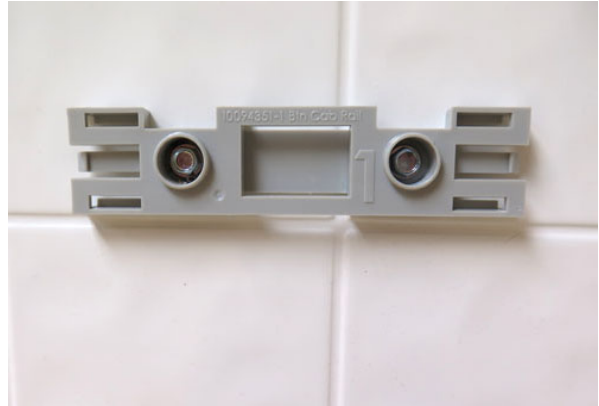

FIG. 5
4. Use hardware to install the dispenser bracket onto the wall. (Fig. 5)